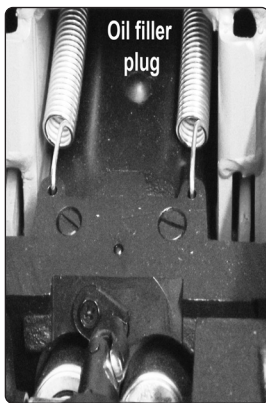

fig.5
7.3.2. With the jack in the level position, remove the oil filler plug (fig.5).